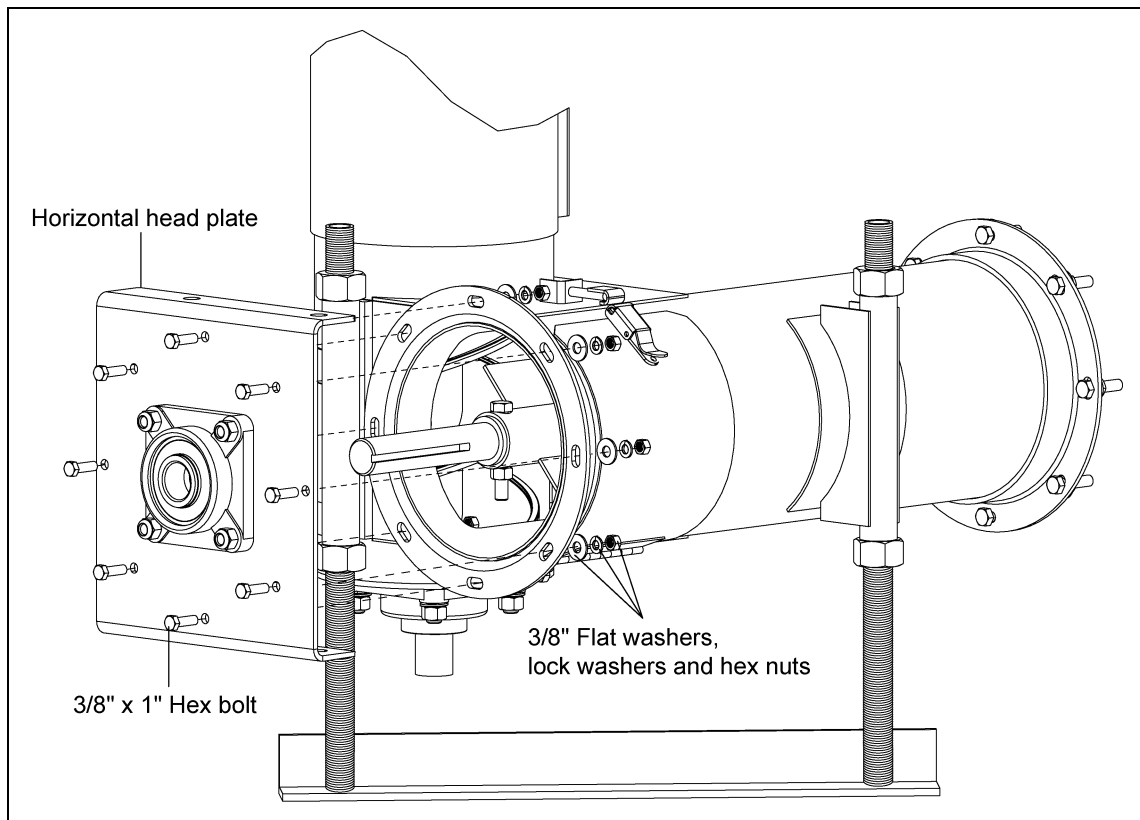

Figure 4D
8. Remove the horizontal head plate from the vertical auger by removing the eight (8) 3/8" x 1" hex bolts, flat washers, lock washers and hex nuts. (See Figure 4D.)